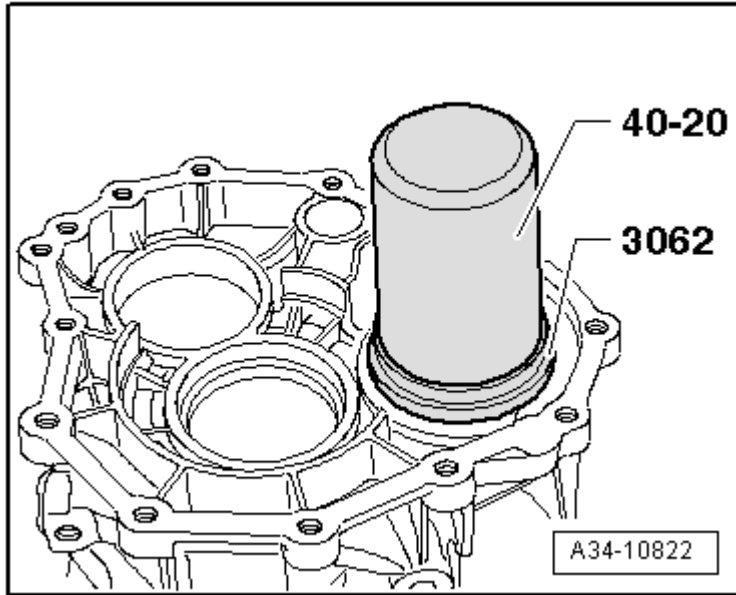

Fig. 58: Installing Needle Bearing All Way Into Transmission Cover
- Installing, refer to **Fig. 58**